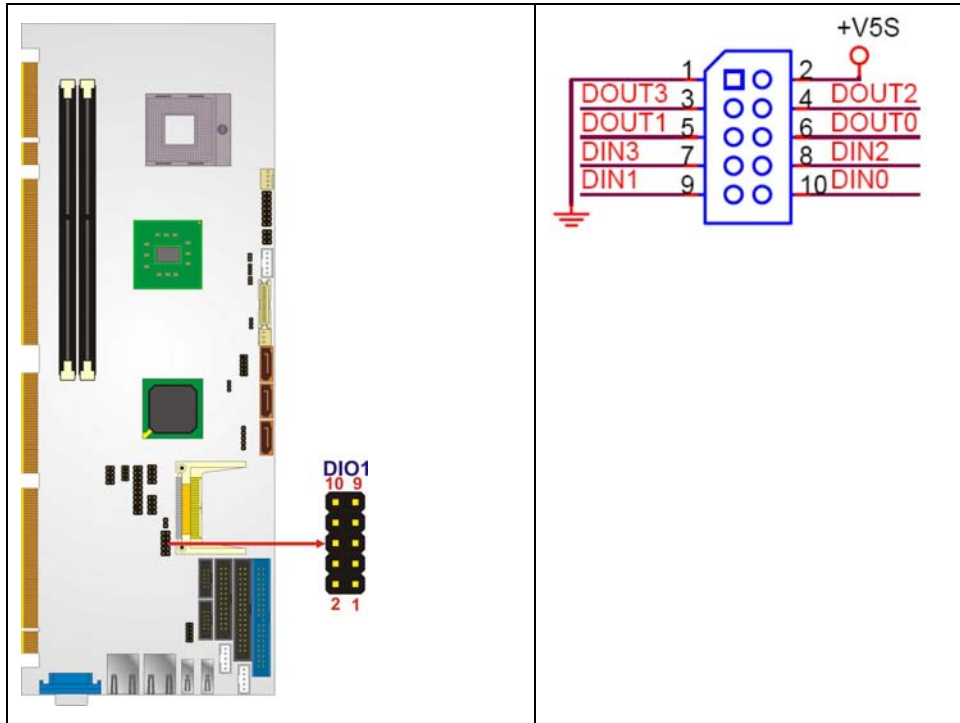

Figure 4-5: DIO Connector Locations
- CN Location:** See **Figure 4-5**